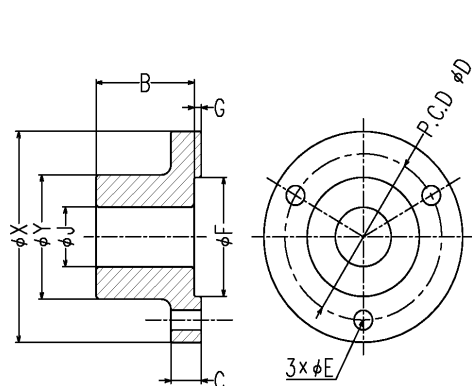

Fig. 1 DOJ Series Flange Type
- Fit tolerance for F dimension in Fig. 1 is H9.
- Fit tolerance for F dimension in Fig.1 is H8.